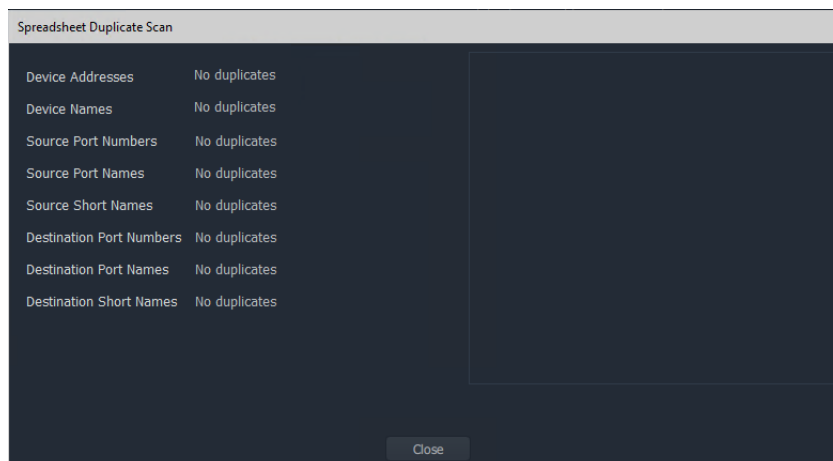

Fig. 18-15: Spreadsheet Duplication Dialog
- the result of these checks is shown in a summary **Spreadsheet Duplicate Scan** dialog, which pops up. See Figure 18-15.